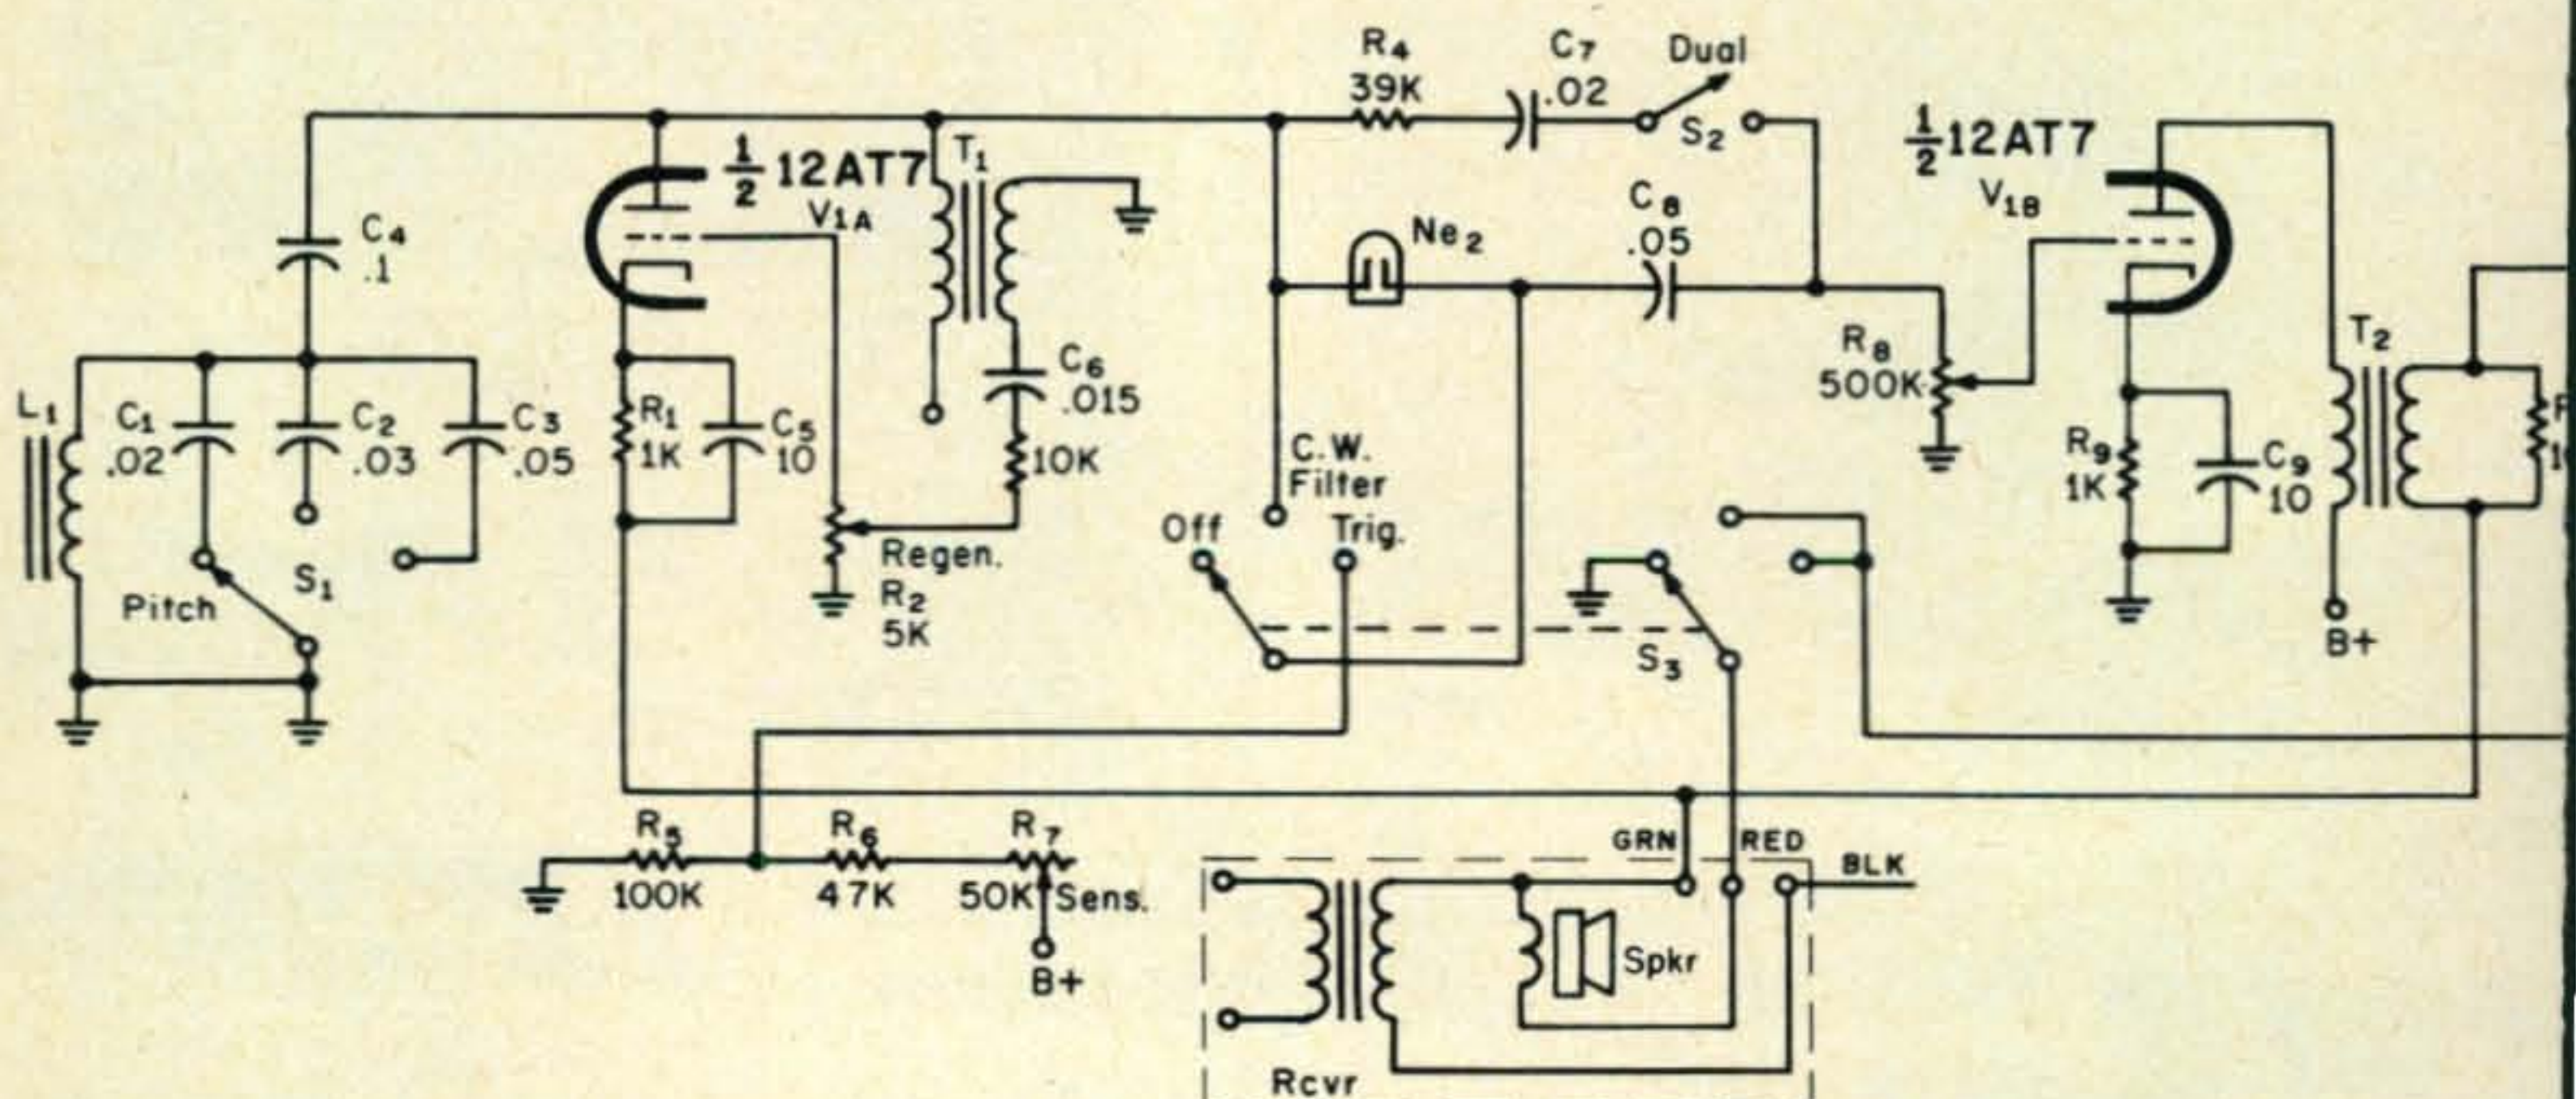

Fig. 1—Circuit of the Signal Souper, a c.w. signal filter and trigger. All resistors are ½ watt, 10%. All capacitors are in mf and are rated for 400 volt
Fig. 1—Circuit application should determine type of fuse to be used for protection. Large inductive circuit (A) might require time-delay fuse, high-power amplifier screen circuit (B) a regular fuse and transistor or meter circuit (C) a quick-blow fuse.
The usual placement of a fuse or circuit breaker is in the a.c. power line to a piece of equipment, the idea being that any short within the equipment will eventually be *reflected* in increased line current. See fig. 1(A). Of course, this is not always true as almost everyone has seen a resistor inside a unit merrily burn up while the line fuse never blew. One cannot possibly protect every component in a piece of equipment and which components to protect are a matter of judgment. For instance, the screen circuit to high-power linears is frequently separately protected since excessive screen current alone can damage expensive tubes. (Fig. 1(B)). Expensive transistor circuits are usually separately protected since the line fuse which protects the power transformer will not open soon enough to prevent transistor damage. Once one has determined which components to protect and what their overcurrent tolerances are, the proper protective device can be chosen.